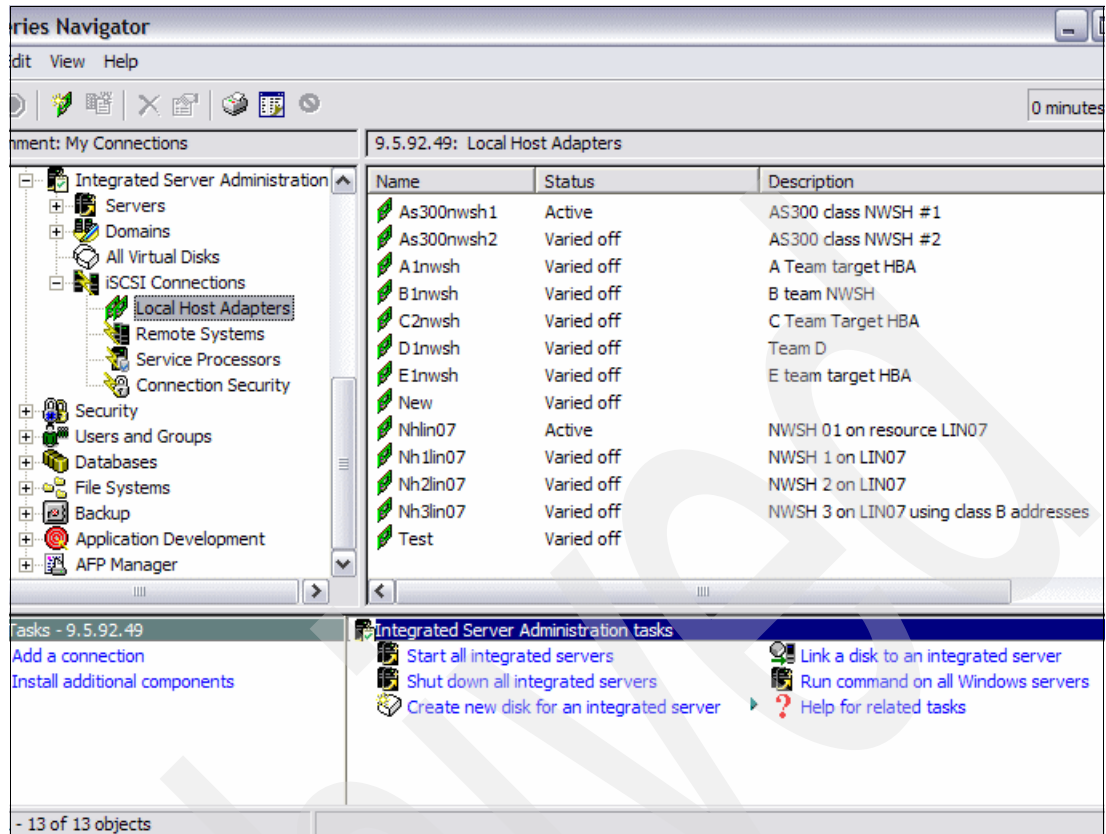

Figure 4-36 Verify that the NWSH is active
- The appropriate NWSH is active (Figure 4-36 on page 81). To verify that the appropriate NWSH is active: Expand **Integrated Server Support** → **iSCSI connections** → Double-click **Local Host Adapters** and verify that the correct NWSH is active.